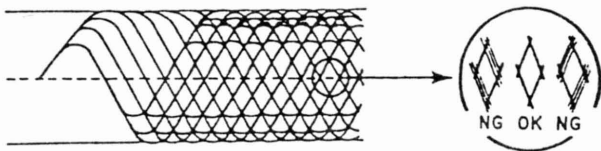

Figure 18
B. Secure Pierre Verany Disc #1 to the CD player's hub and start playing Track # 1. Adjust VR302 so that the signal envelope at TP2 shows the clearest diamond pattern. (See Figure 18). This pattern will not necessarily occur at the maximum amplitude.